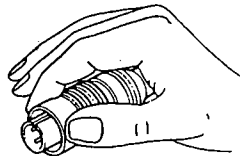

Fig. 93
- (2) While charging, the pilot lamp lights up.
- (3) Charge the internal battery for 12 hours.
- (4) When charging is completed, disengage the battery charger, plug and the internal battery.
N.B. Hold the ring as in Fig. 93, when the connector is removed.